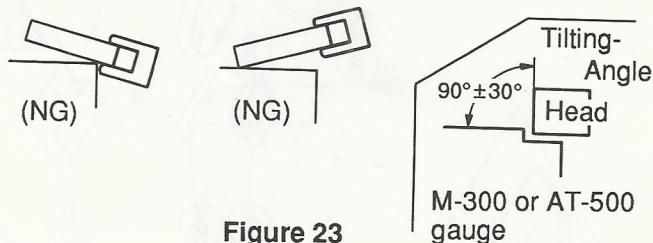

Figure 23
- (4) Adjust the height of the head as shown in Figures 23, 24 and 25.
- ① Place the height adjustment gauge (M-300 or AT-500) on the head base, and adjust the height so that the check bar fits in the tape head guide smoothly.
- ② When the check bar touches the top (or bottom) of the tape guide, insert a spacer (t 0.1 mm or polislid washer t 0.13 mm). If necessary, remove the spacer.